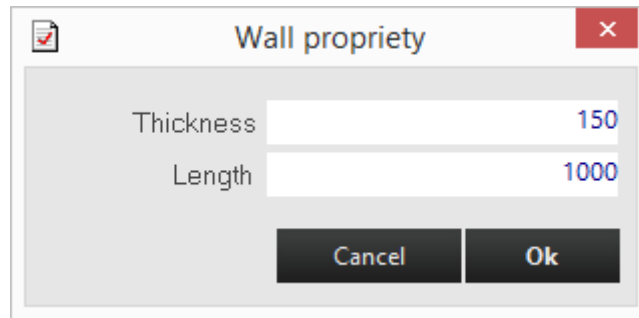

Figure 5.5: To set wall thickness and length.
- 3 Dragging the wall end yellow arrow, changes the wall length, or selecting it and pressing the SPACE bar (or ENTER) temporary changes the wall length and thickness, see figure 5.5.